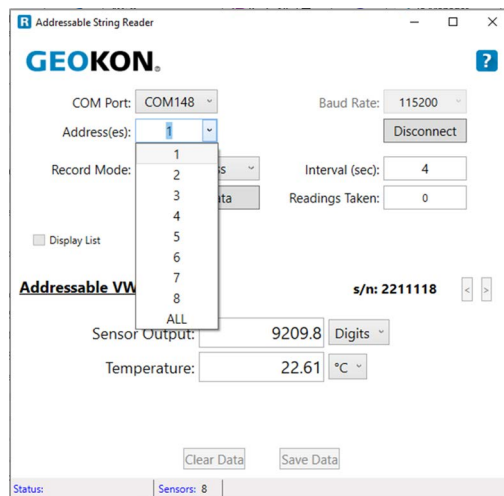
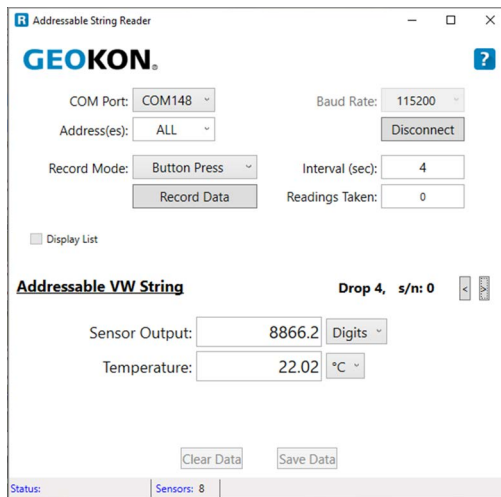

FIGURE 24: Address Selection
FIGURE 25: Drop Selection Buttons "<" and ">" Enabled
3. From the "Address(es)" drop-down list, selecting "ALL" (Figure 24) enables the left and right arrow buttons on the right-hand side of the display (see Figure 25) and allows the user to easily scroll between sensor channels.